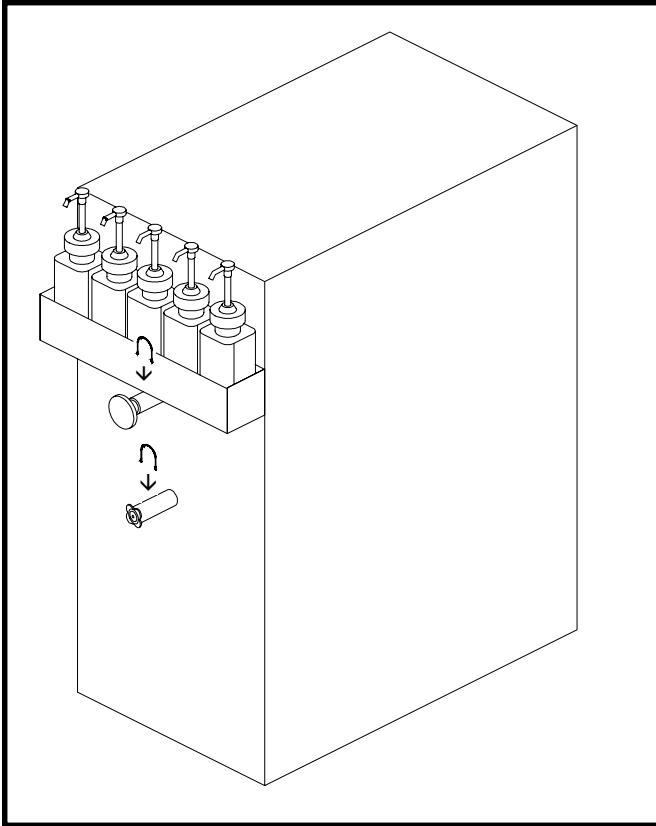

Figure 15
- E. To remove the upper and lower spigot assemblies, remove the retaining clip and pull the spigot assemblies straight out of the product outlet (Fig.15).